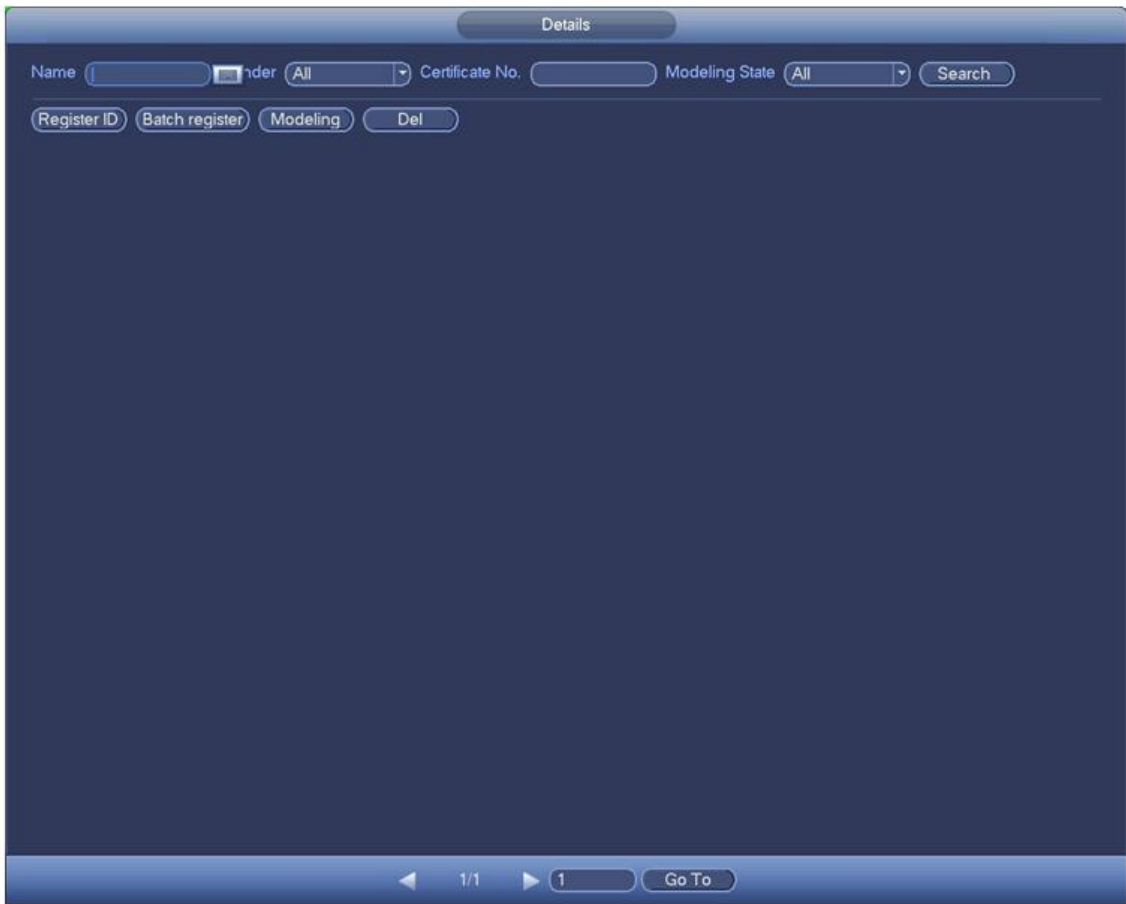

Figure 4-157
The Details interface is displayed. See Figure 4-157.
- Step2 Click Batch Register in Figure 4-157.